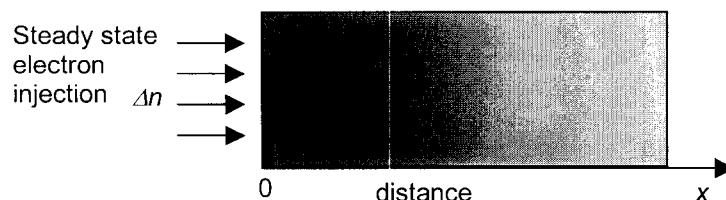

Figure 3.1: p-type semiconductor with steady state electron injection at  $x = 0$  with  $\Delta n$  the excess electron concentration injected.
- a) A steady state flow of electrons is injected into one face, at  $x = 0$ , of a p-type semiconductor slab as illustrated in Figure 3.1. Sketch the excess electron density variation in the semiconductor as a function of  $x$  when: